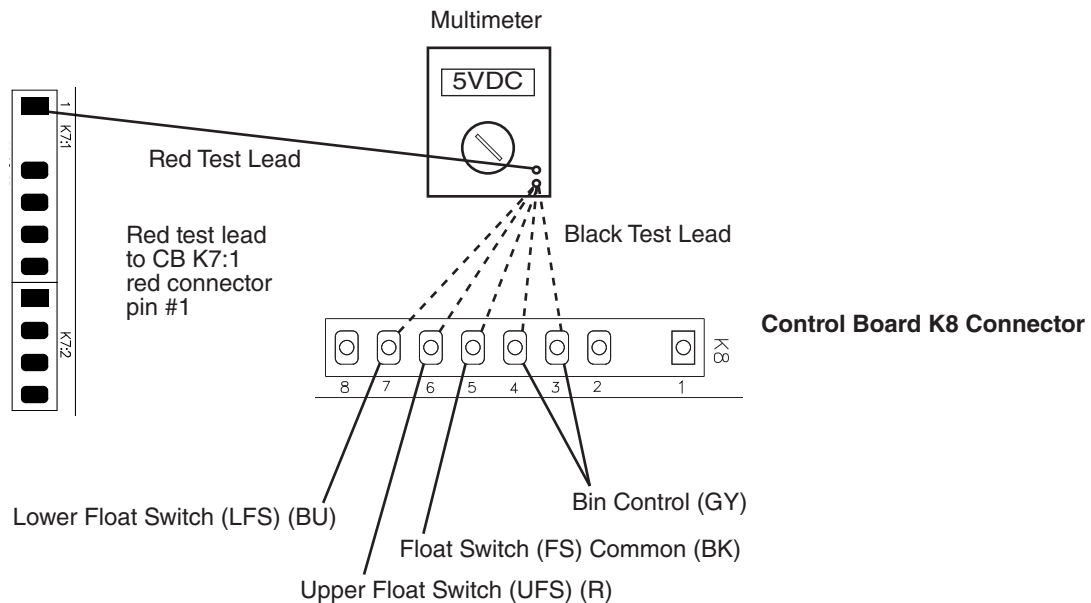

Fig. 2
(2) **5VDC CB K8 Connector:** See Fig. 2.